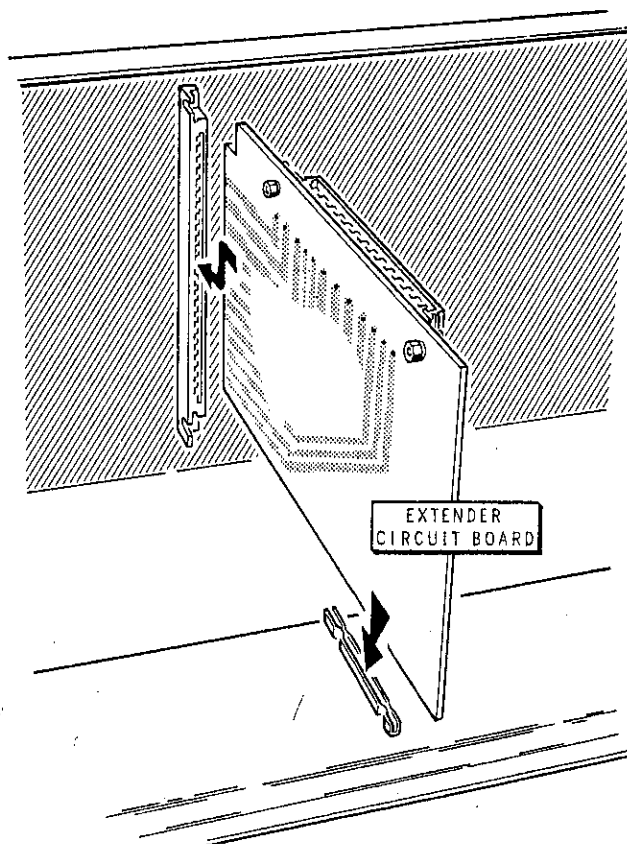

Figure 1-10
- () Refer to Figure 1-10 and install the extender circuit board in the tuner/phase-lock-loop circuit board location.